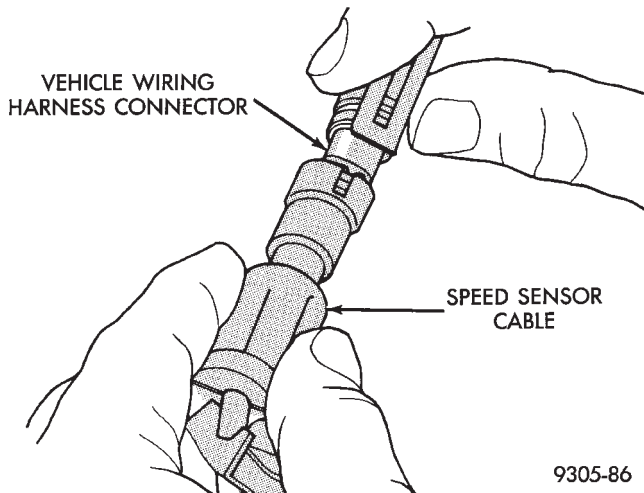

Fig. 6 Speed Sensor Cable To Wiring Harness Connection
(3) Carefully, pull sensor assembly grommet from fender shield.
(4) Unplug speed sensor connector from vehicle wiring harness connector (Fig. 6).
(3) Connect speed sensor cable connector, to vehicles wiring harness connector (Fig. 6). Be sure locking tab on connector is securely latched.